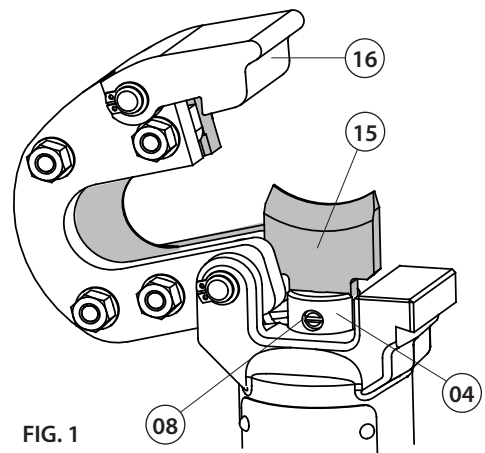

FIG. 1
4. BLADE REPLACEMENT (Ref. to Fig. 1 and 2)